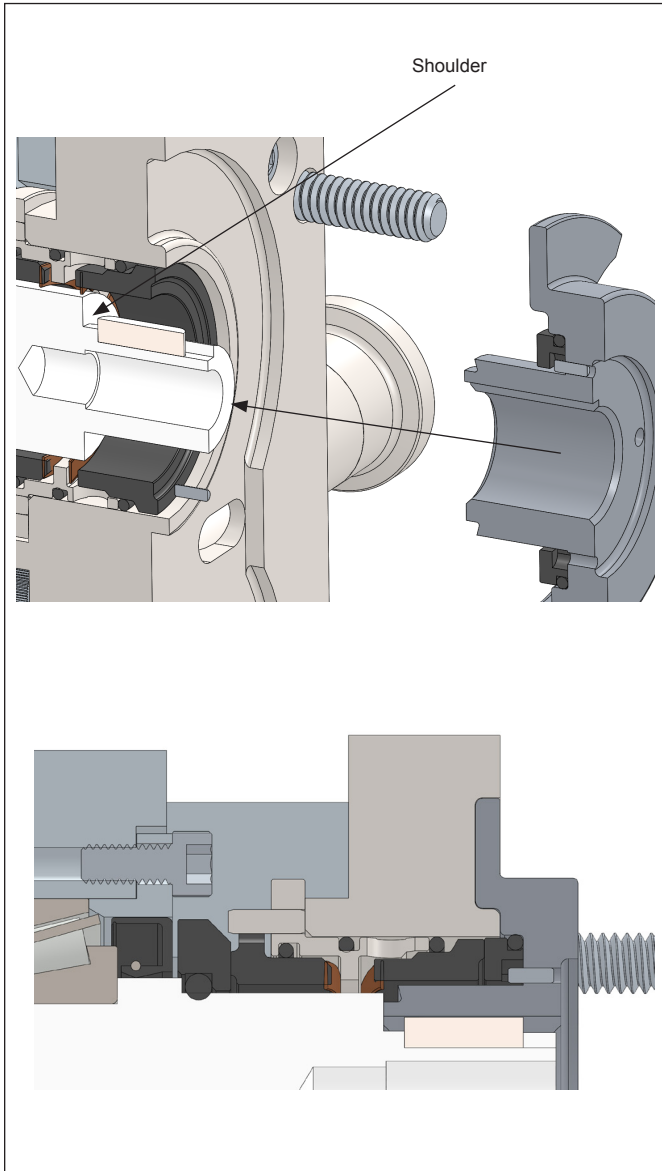

Figure 31. Rotor Assembly
5. Insert a rotor key in the keyway on the shaft. Slide the rotors onto the shafts until they seat against the shaft shoulder (Figure 31).